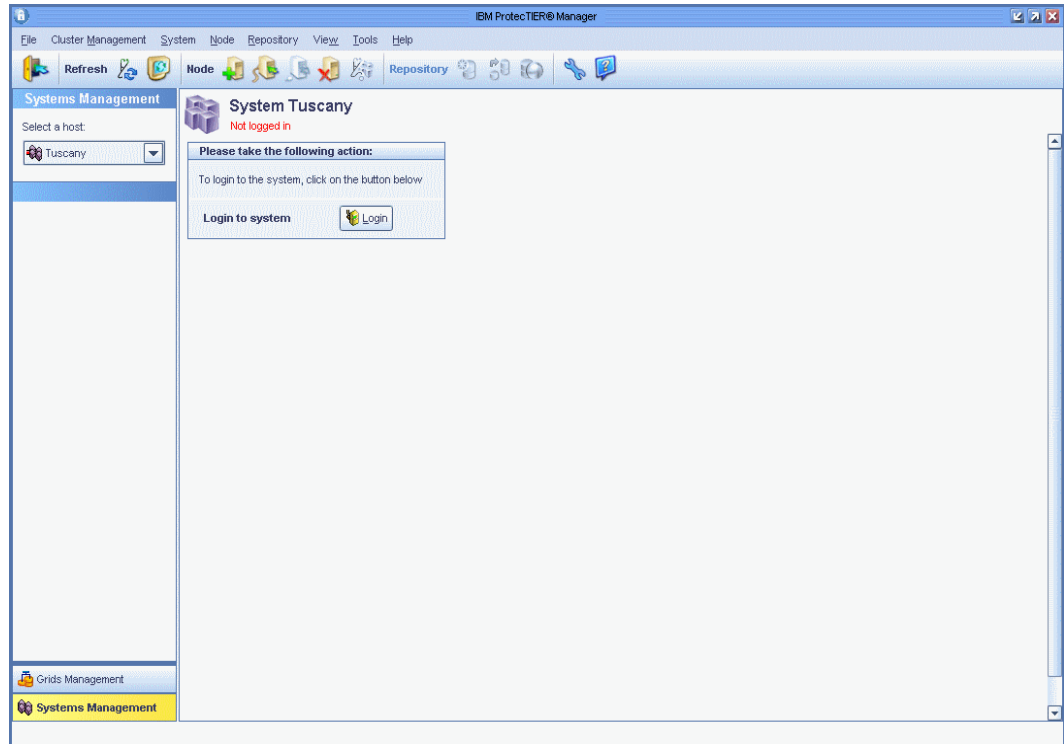

Figure 10-100 Reboot node window while rebooting
4. You will be logged out and the node reboots without any further messages (Figure 10-100).